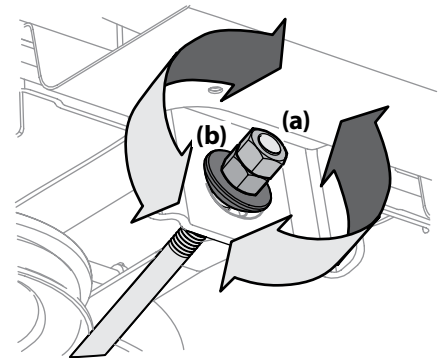

Figure 4-7
5. To raise the front of the deck, remove the end cap, loosen the outer nut (a) then tighten (thread inward) the inner nut (b) against the front hanger bracket. See Figure 4-7. When proper adjustment is achieved, re-tighten the outer nut (a) and replace the end cap.
6. To lower the front of the deck, remove the end cap, loosen the outer nut (a) then loosen (thread outward) the inner nut (b), away from the front hanger bracket. See Figure 4-7. When proper adjustment is achieved, re-tighten the outer nut (a) and replace the end cap.